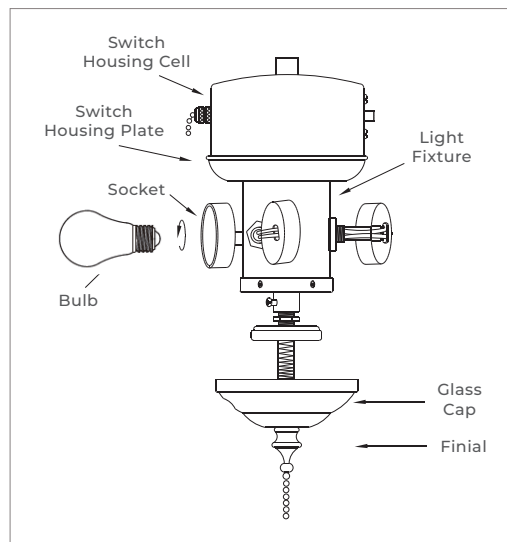

FIGURE 11
- 1) Attach switch housing plate to switch housing shell using supplied screws and secure (Fig 11).